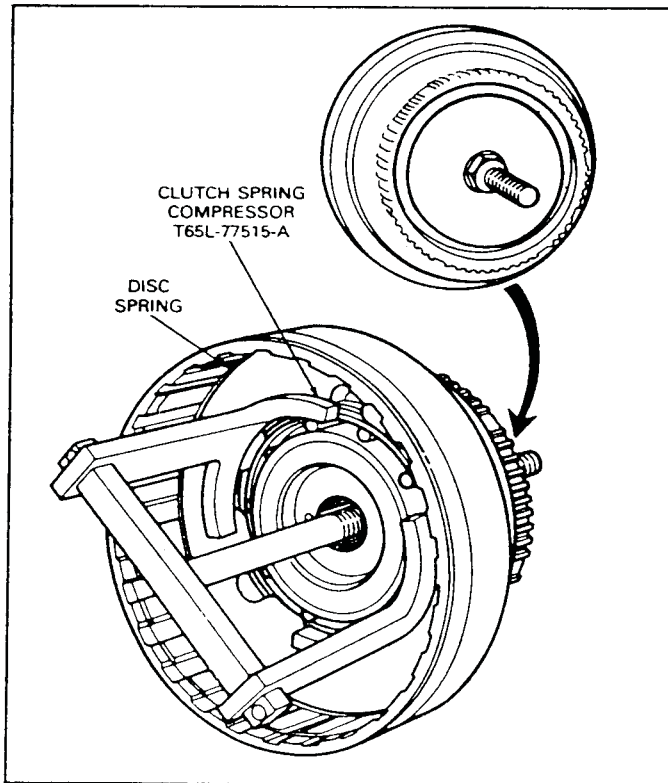

FIG. 49 Removing or Installing Disc Spring
3. Remove the snap ring (Fig. 49) that secures the disc spring in the clutch cylinder. Remove the disc spring and steel ring using Tool T65L-77515-A.
4. Make sure that the steel pressure ring is in the groove on the piston. **Position the disc spring in the cylinder with the dished face downward.** Install the spring as shown in Fig. 49 so that the